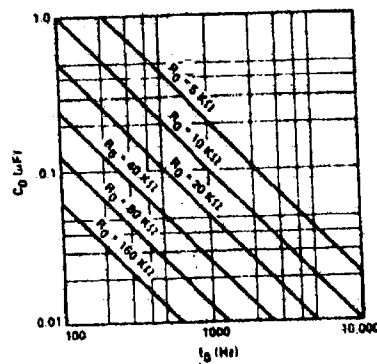

Figure 4: VCO Frequency vs Timing Resistor.
**VCO Timing Capacitor (Pins 13 and 14):** VCO frequency is inversely proportional to the external timing capacitor,  $C_0$ , connected across these terminals (see Figure 4).  $C_0$  must be nonpolar, and in the range of 200 pF to 10  $\mu$ F.